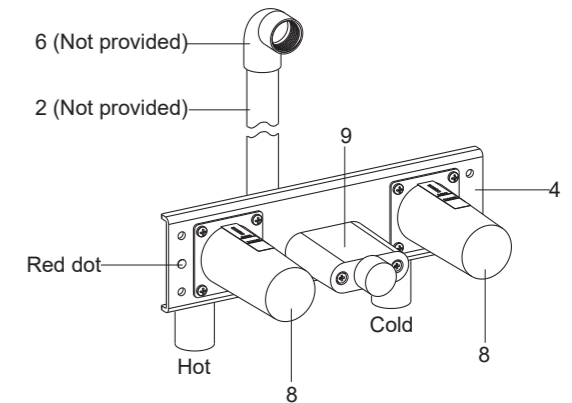

Fig. 2
As Fig. 2 shown, ensure the showerhead outlet tube(2) is connected correctly with G1/2" female ell(6).
Select a location in the vertical wall to install the inlet assembly(4) according to rough-in dimensions. As Fig. 2 shown, make sure the protectors(8, 9) face front and the inlet assembly with red dot is on the left side. **NOTE:** Make sure the centerline of the inlet assembly is vertical to the wall, the upper surfaces of the protectors is horizontal.